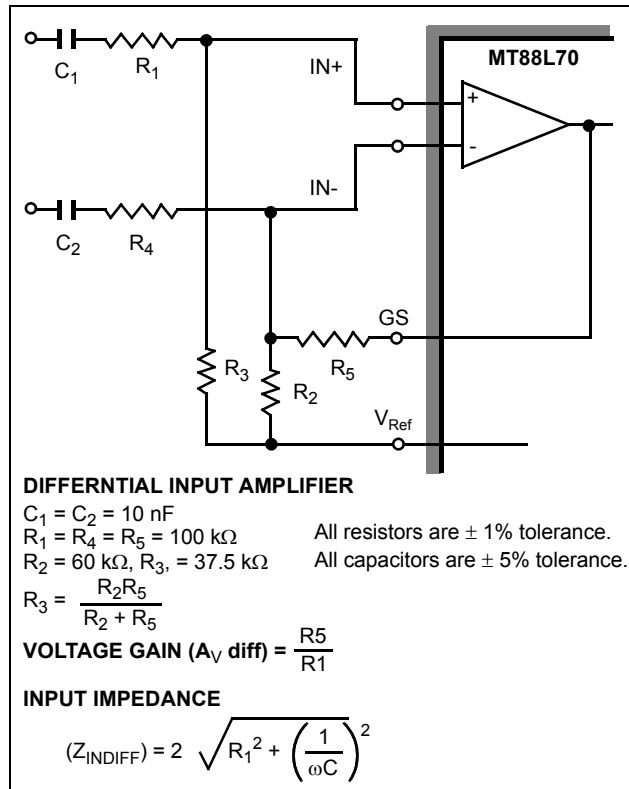
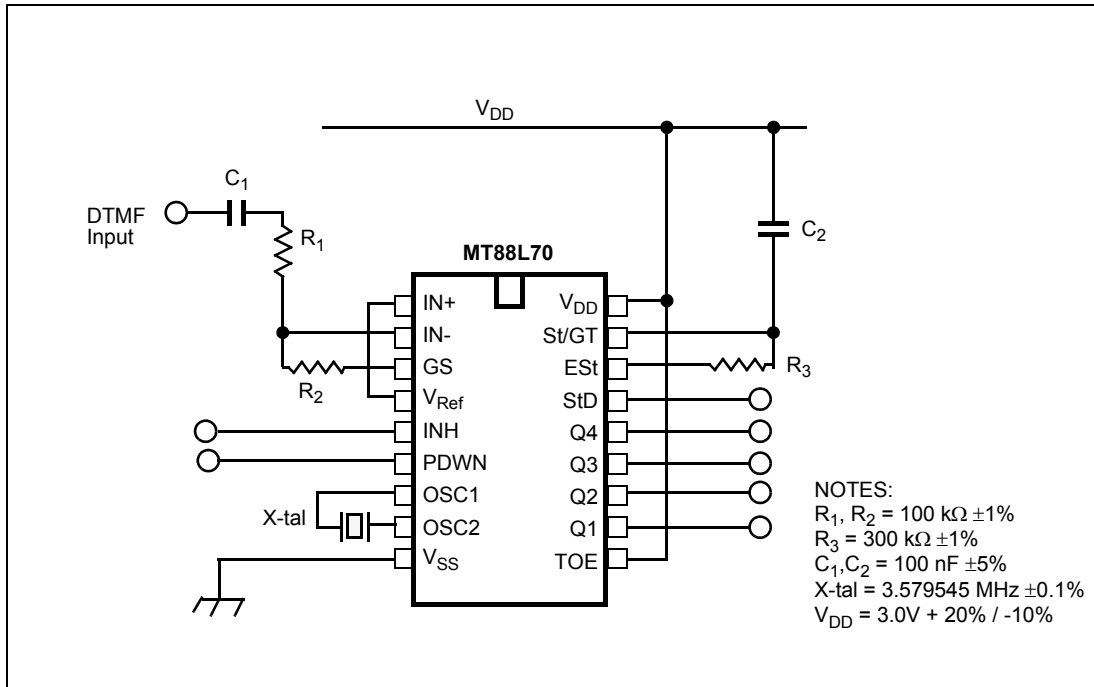

Figure 5 - Differential Input Configuration
Figure 6 - Single-Ended Input Configuration
The input arrangement of the MT88L70 provides a differential-input operational amplifier as well as a bias source (V_{Ref}) which is used to bias the inputs at mid-rail. Provision is made for connection of a feedback resistor to the op-amp output (GS) for adjustment of gain. In a single-ended configuration, the input pins are connected as shown in Figure 6 with the op-amp connected for unity gain and V_{Ref} biasing the input at $1/2V_{DD}$. Figure 5 shows the differential configuration, which permits the adjustment of gain with the feedback resistor R_5 .
The internal clock circuit is completed with the addition of an external 3.579545 MHz crystal and is connected as shown in Figure 6 (Single-ended Input Configuration).
A single-ended input configuration is shown in Figure 6. For applications with differential signal inputs the circuit shown in Figure 5 may be used.
AC Electrical Characteristics - $V_{DD} = 3.0\text{ V} \pm 20\%/-10\%$, $V_{SS} = 0\text{ V}$, $-40^{\circ}\text{C} \leq T_O \leq +85^{\circ}\text{C}$, using Test Circuit shown in Fig. 6.
AC Electrical Characteristics - $V_{DD} = 3.0\text{ V} \pm 20\% / -10\%$, $V_{SS} = 0\text{ V}$, $-40^{\circ}\text{C} \leq T_o \leq +85^{\circ}\text{C}$, using Test Circuit shown in Figure 6.